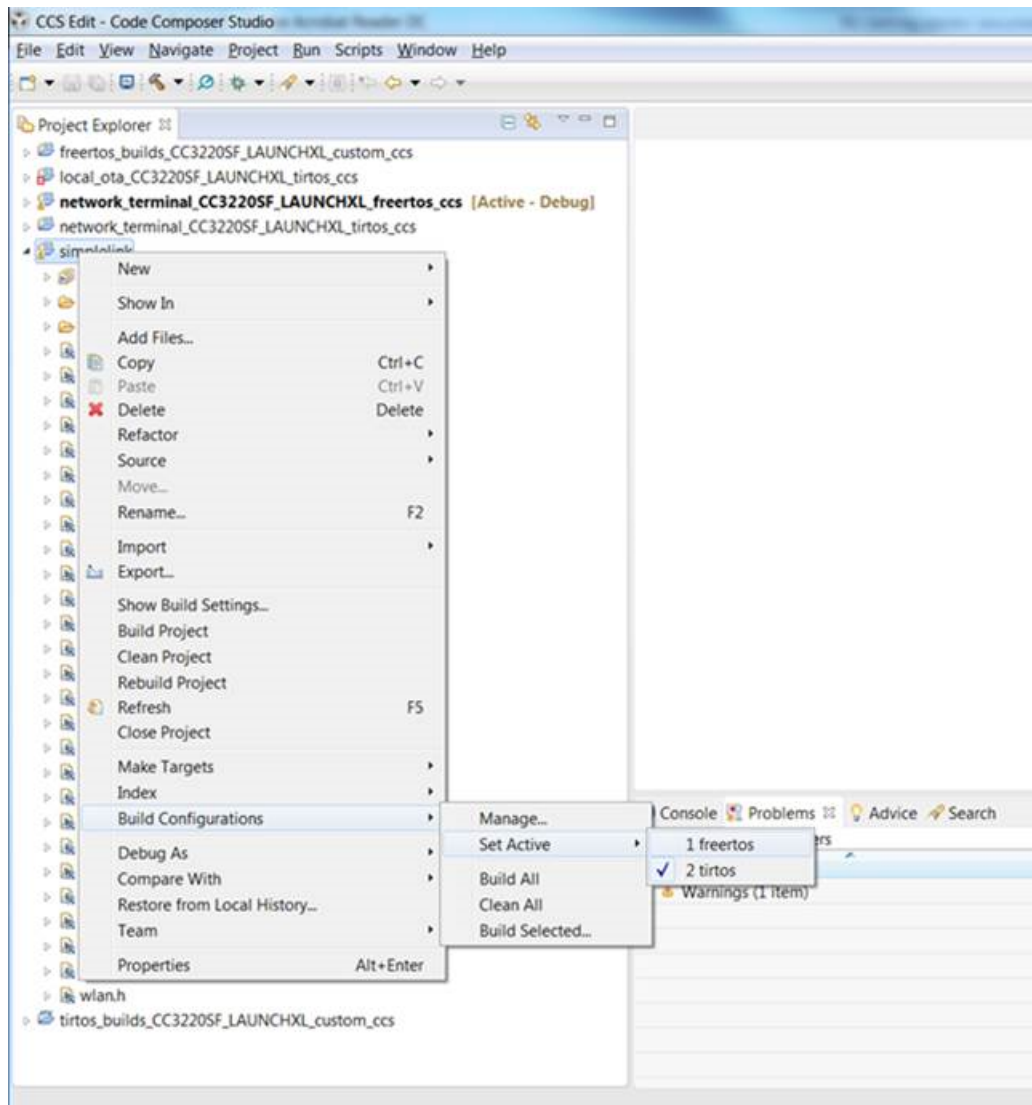

Figure 4-1. Select Debug Configuration
If from any reason it needs to be rebuilt the Build Configuration needs to be specified for to the right OS (as seen in Figure 4-1).
1. Choose the relevant debug configuration (os_debug for getting started with WLAN station) from Project → Build Configurations → Set Active, as shown in Figure 4-1.